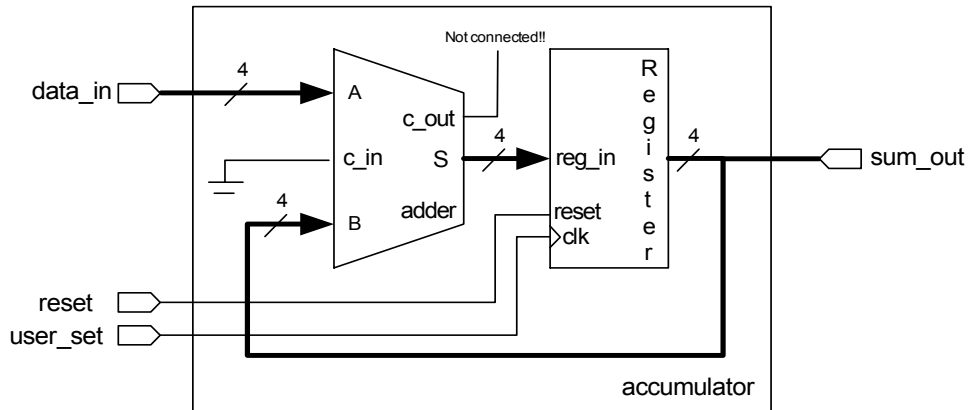

Figure 18; Accumulator block diagram.
3. Analyzing four\_bit\_reg.vhd description; Open the file four\_bit\_reg.vhd by double clicking on it under **Sources in Project** window. This file describes the “register” block shown in figure 18. When the input “reset” is high, the output of the block is “0000”. If a raising edge is detected in the input signal “clk”, the block will read its input “reg\_in” and write it down on its output signal “sum\_out”.
4. Creating a new source file; Following the same procedure as in step 1,2 and 3, go to **Project** → **New Source**, select **VHDL Module** and enter the name “accumulator”. Define the VHDL source as a structural architecture and declare the inputs and outputs of the accumulator following the block diagram in figure 18. Click **Next** → **Finish**. The result will be a new source file where the skeleton is ready for you to fill it out with the description of the circuit.
5. Declaring components; Following block diagram in figure 18, you will need two kind of components; a 4-bit full adder and a 4-bit register (the block that you added to your project through the file *four\_bit\_register.vhd* . Remember that a component declaration goes between “*architecture structural of accumulator is*” line and the “*begin*” line.
6. Connecting components; Component instantiation (section where you describe the connections between components) goes between the lines “*begin*” and “*end structural*” in the VHDL description of the system. Follow the logic diagram in figure 18 to describe the connections between the components and inputs/outputs of the accumulator.
7. Synthesize the project; Highlight the file accumulator.vhd in the **Sources in Project** window and double click on **Synthesize** in the **Processes for current sources** window. Make sure there are no errors. Note that you will get warnings due to the “no connection” of the signal “c\_out” in figure 18.